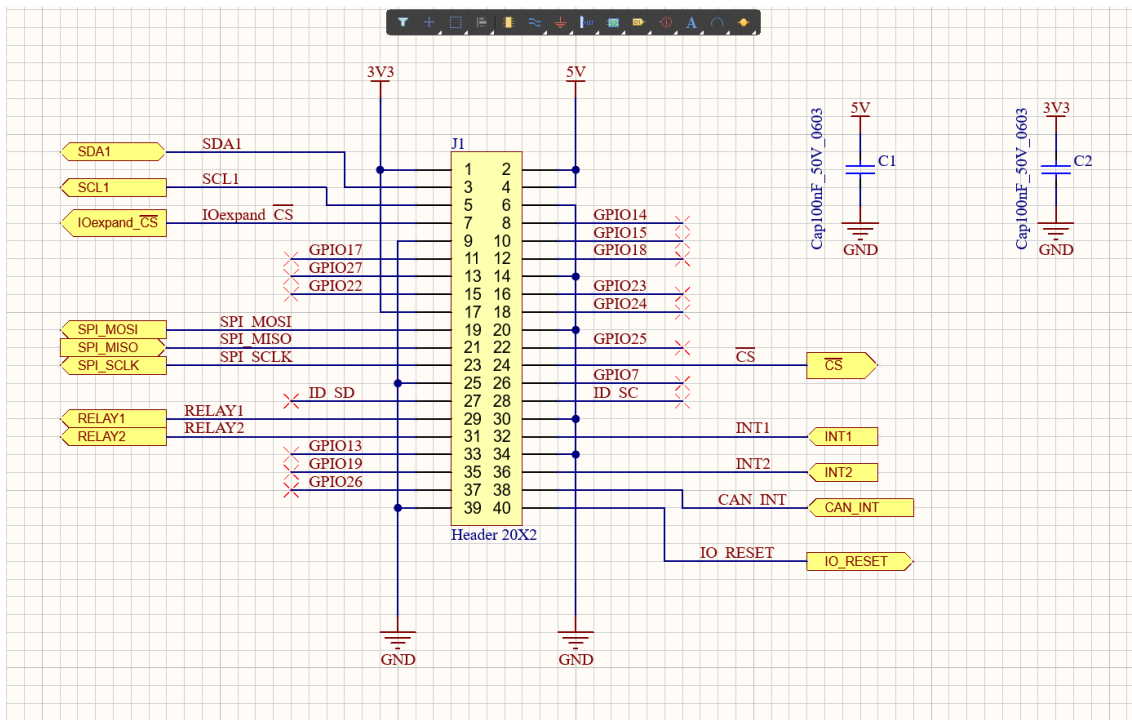

Figure 8. Completed Schematic as reference
16. Let's start by connecting Pin 1 to Pin 17 of the header, and then place a power port. See Figure 8 as reference to how the completed schematic will look.